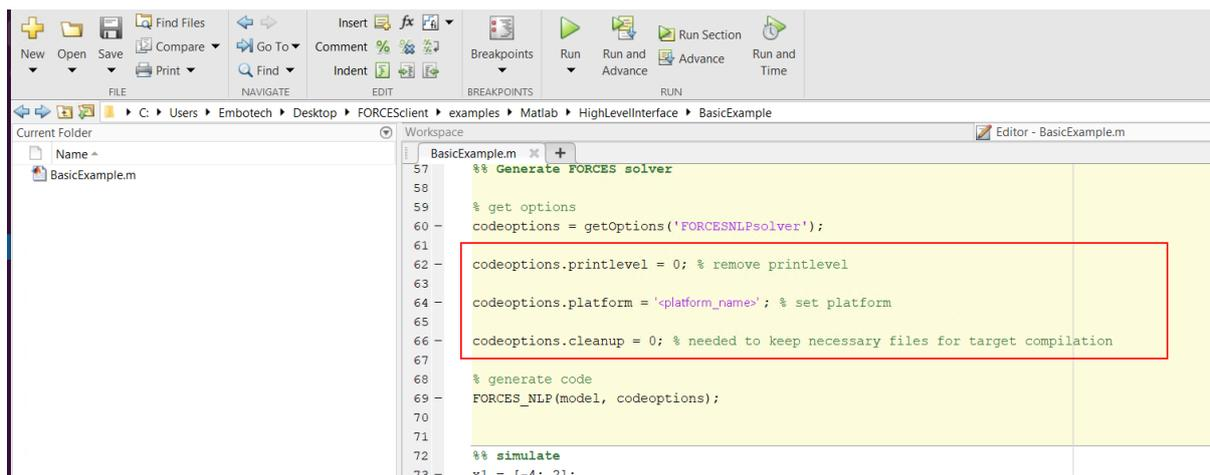

Figure 13.28: Set the appropriate code generation options.
1) (Figure 13.28) Set the code generation options: